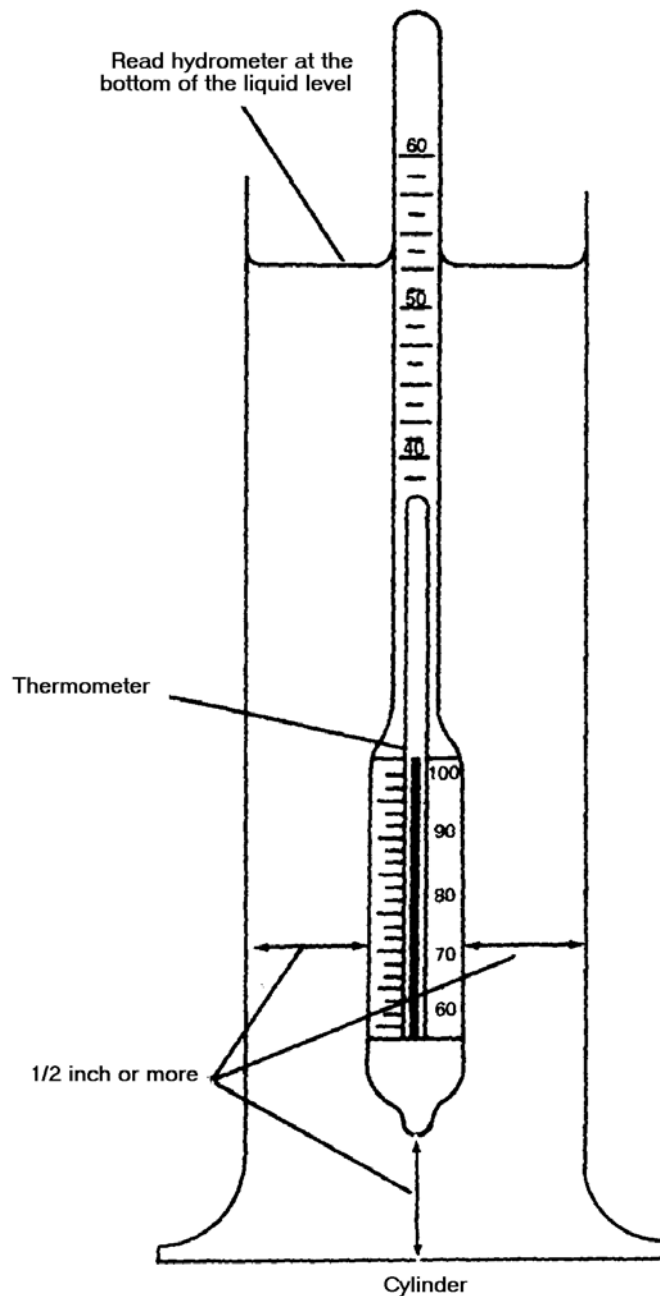

Figure I-2. Hydrometer ready to be read
- Step 11. When the hydrometer is floating freely at rest, read it to the nearest scale division. Have your eye slightly below the level of the liquid, and raise it slowly until the surface of the liquid appears to be a straight line across the hydrometer scale. Record the gravity reading to the nearest scale division as shown in Figure I-2.